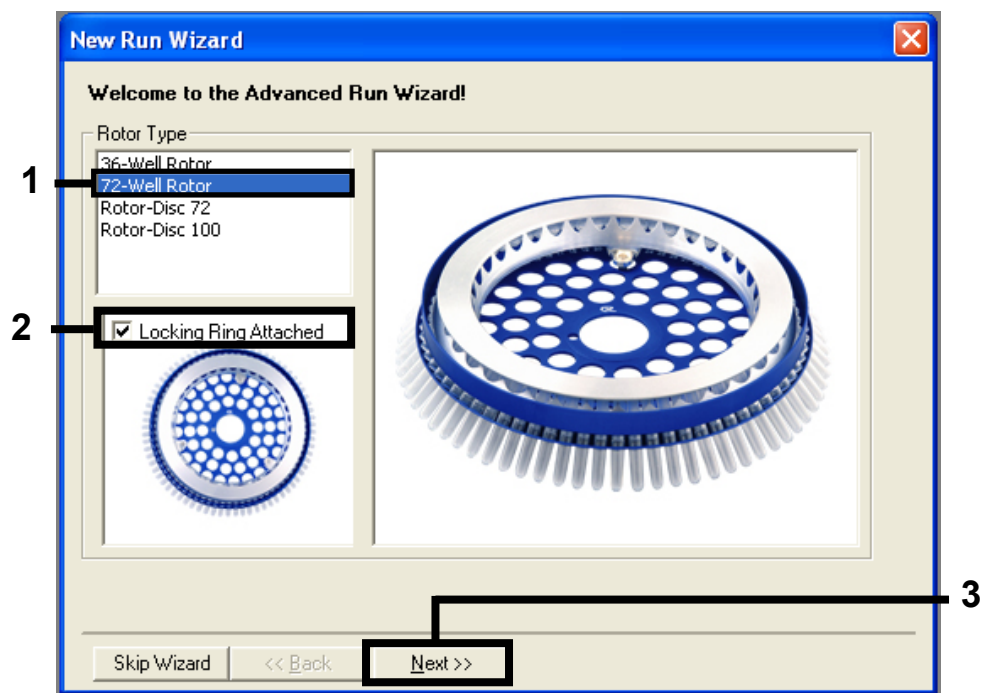

Figure 33. The "New Run Wizard" dialog box and welcome screen (1 = "Rotor type"; 2 = "Locking Ring Attached" box; 3 = "Next" button).
2. Ensure that the correct rotor is selected, and check the box to confirm that the locking ring is attached. Click "Next" (Figure 33).